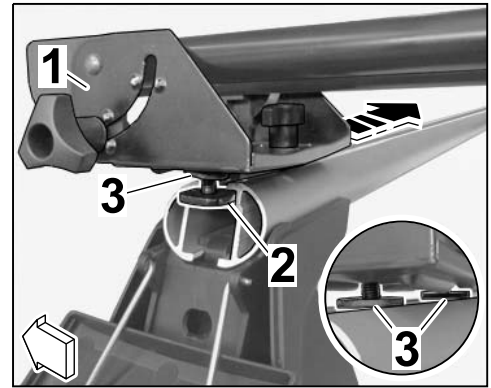

Figure 26
- The plastic washers (2 ea.) must be **BETWEEN** the front wheel holder and roof transport system carrier (⇒ Fig. 26, Inset). This means that they must make contact with the roof transport system carrier.
6.1.2 Push the front wheel holder with the two T-bolts into the groove on the roof transport system carrier (⇒ Figure 26 -arrow-).
The plastic washers (⇒ Figure 26 -2-) must be between the carrier and front wheel holder (⇒ Figure 26 -3-).